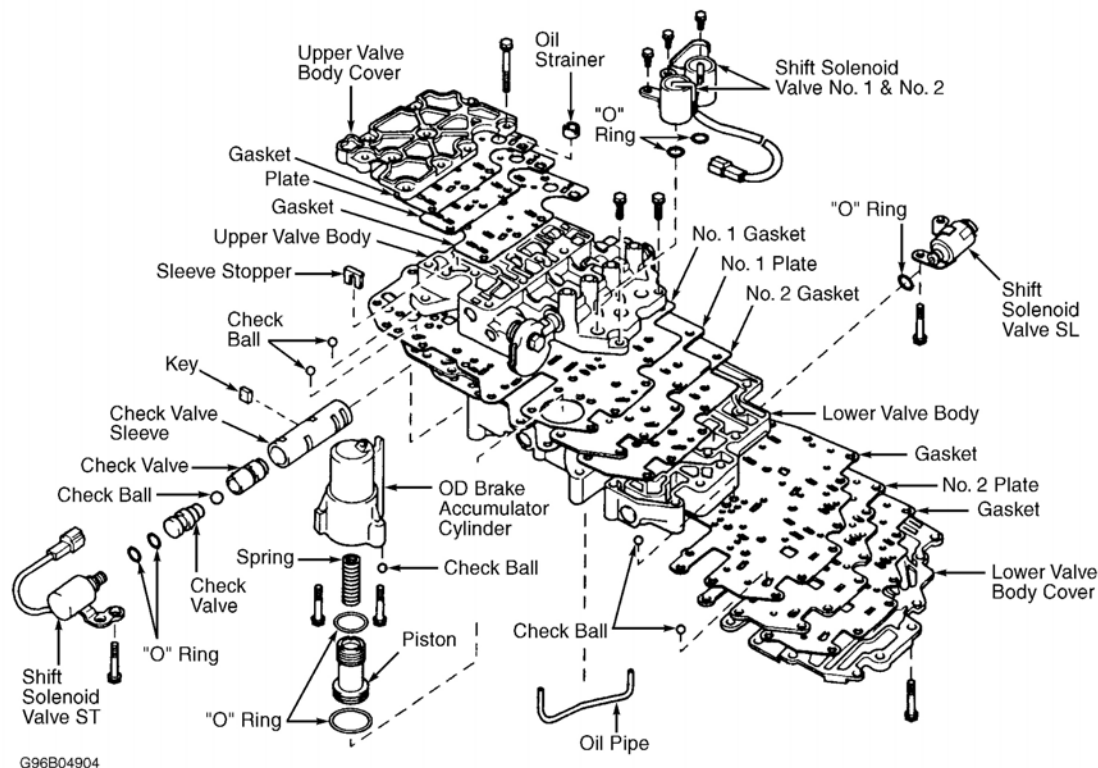

Fig. 32: Exploded View Of Valve Body Assembly (A-540H)
1. Remove No. 1 and No. 2 solenoids. See **Fig. 32** . DO NOT use a screwdriver to pry up solenoid(s). Remove "O" ring(s) from solenoid(s). Remove shift solenoid valve SL. Remove shift solenoid valve ST with check valve sleeve. Remove shift solenoid valve ST from check valve sleeve.